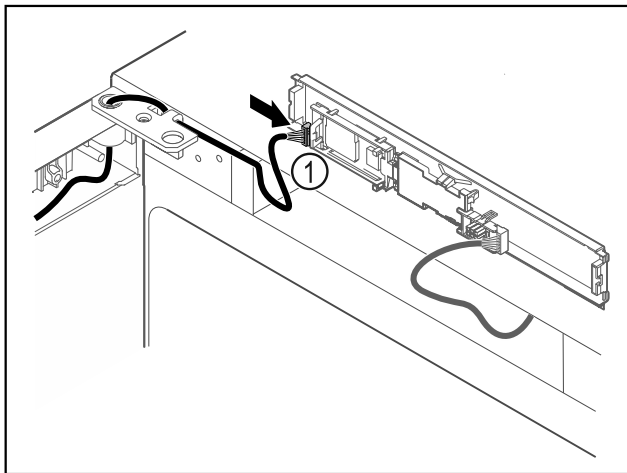

Fig. 56
- ▶ Connect the plug Fig. 56 (1) to the circuit board.